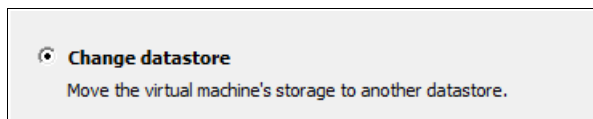

Figure 7-46 Change datastore
3. In the wizard, select **Change Datastore** and click **Next** (Figure 7-46).